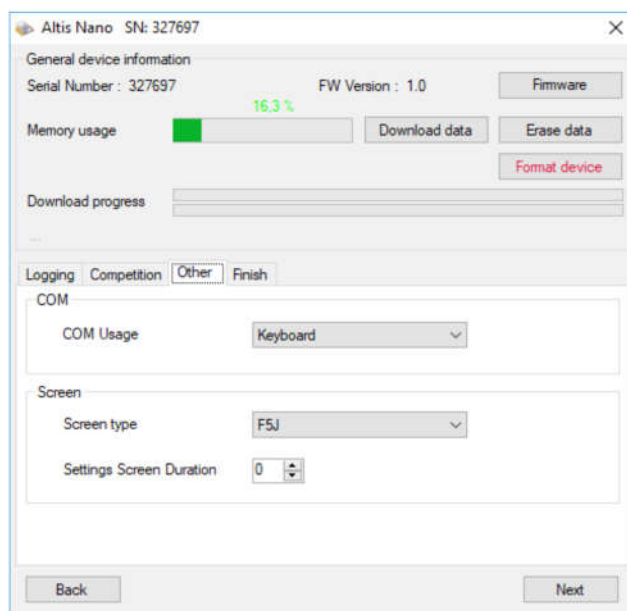

Fig 11: COM and screen settings
Other settings (Fig 11) – You can assign a function for COM port and change screen that can be shown on the display.
- Configure COM port to KeyPad mode in the corresponding window shown in Fig 11.